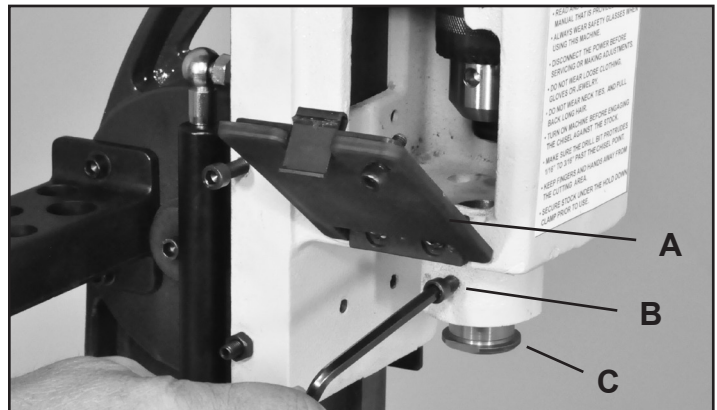

FIG. 8
1. Open the chuck access Cover (#14)(A) and loosen the side bushing set Screw (#86)(B). FIG. 8.
2. The Mortiser's head comes bored with a 1" diameter hole for chisels with 1" shanks. For other diameter chisels shanks, the use of the 3/4" or 5/8" bushing is required. Install the bushing (FIG. 8, C), if needed, and slightly tighten the bushing set screw to keep the bushing in place.